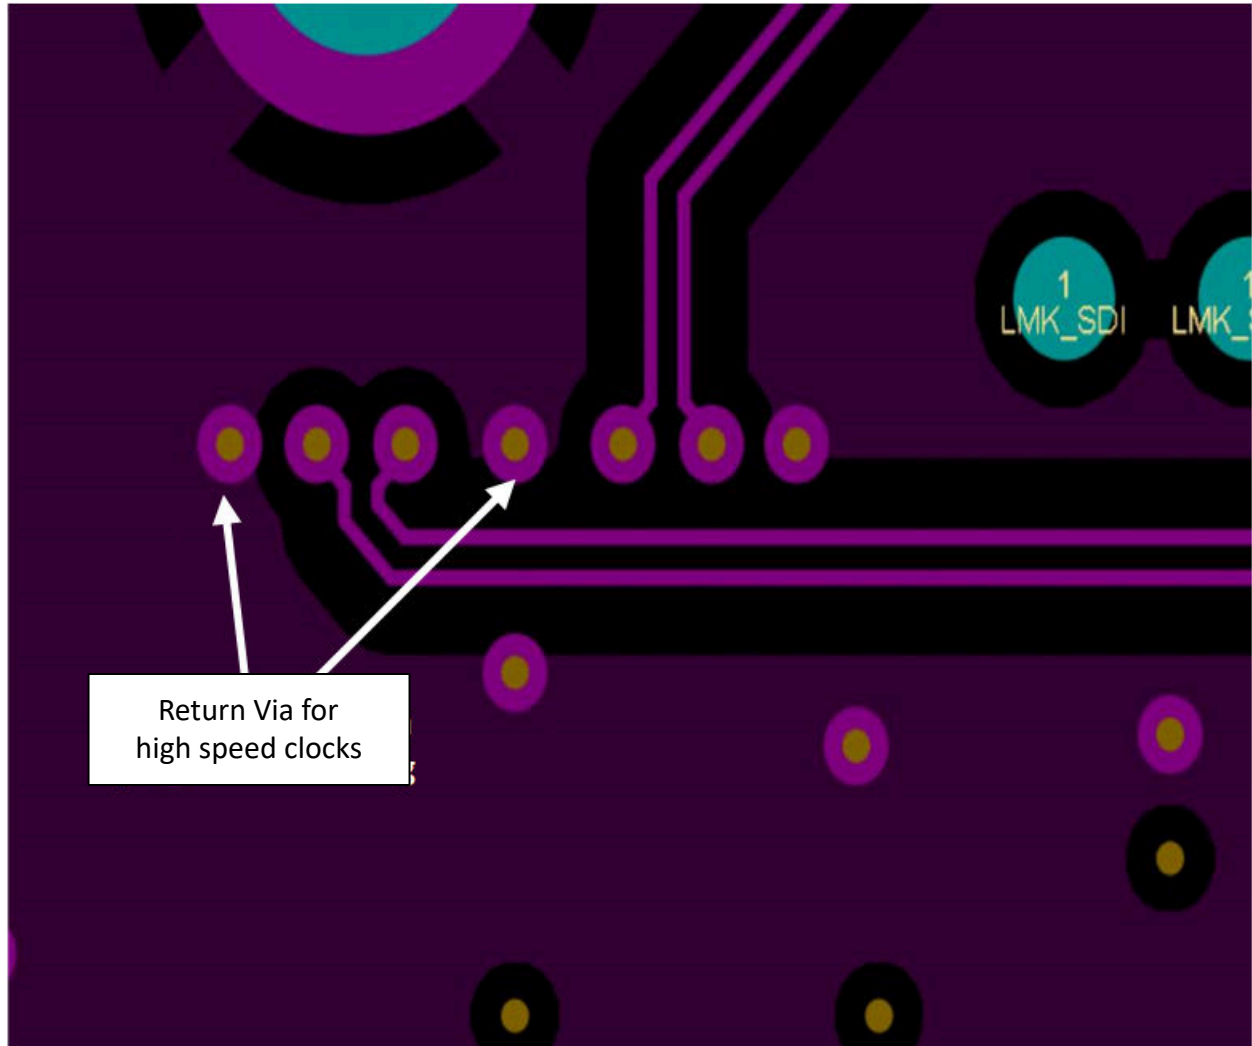

Figure 8-27. Return Vias for High Speed Clock
8. When high-speed signals must transition to another layer using vias, transition as far through the board as possible (top to bottom is best case) to minimize via stubs on top or bottom of the vias. If layer selection is not flexible, use back-drilled or buried, blind vias to eliminate stubs. Always place two ground vias ("return vias") close to critical high-speed signal trace via when transitioning between layers to provide a nearby ground return path. See Figure 8-27 and Figure 8-28 as examples.